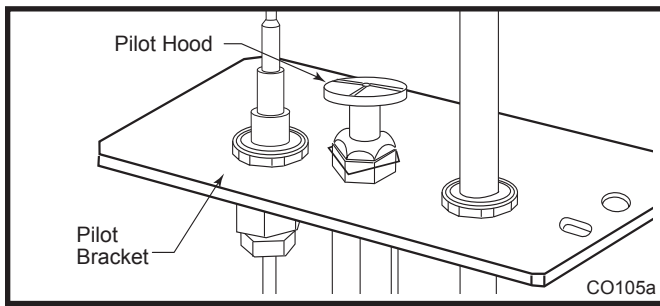

Fig. 54 Remove pilot hood.
- Remove pilothood by lifting up. (Fig. 54) **NOTE:** Do not remove snap ring to remove pilot hood. **NOTE:** It is not necessary to remove the pilot tube for conversion.